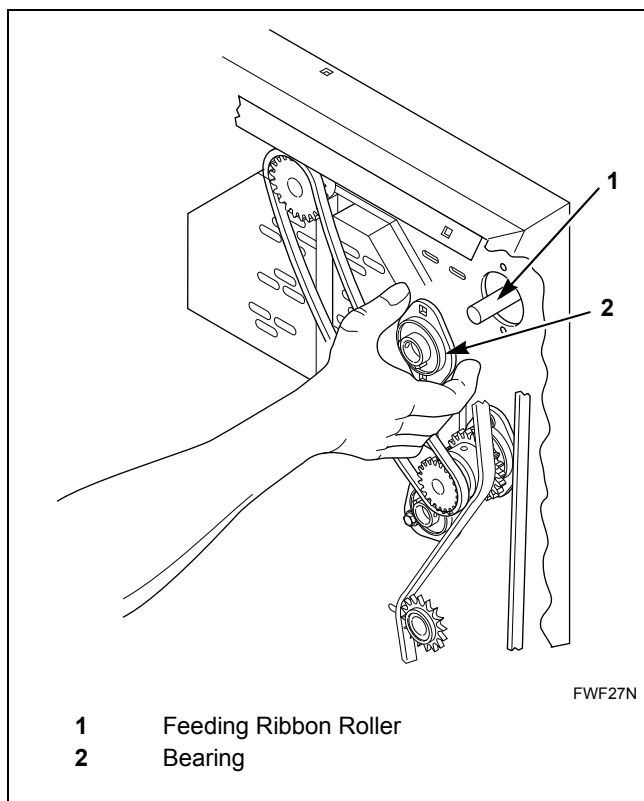

Figure 32
7. Remove bearing by pressing left. Refer to *Figure 32*.